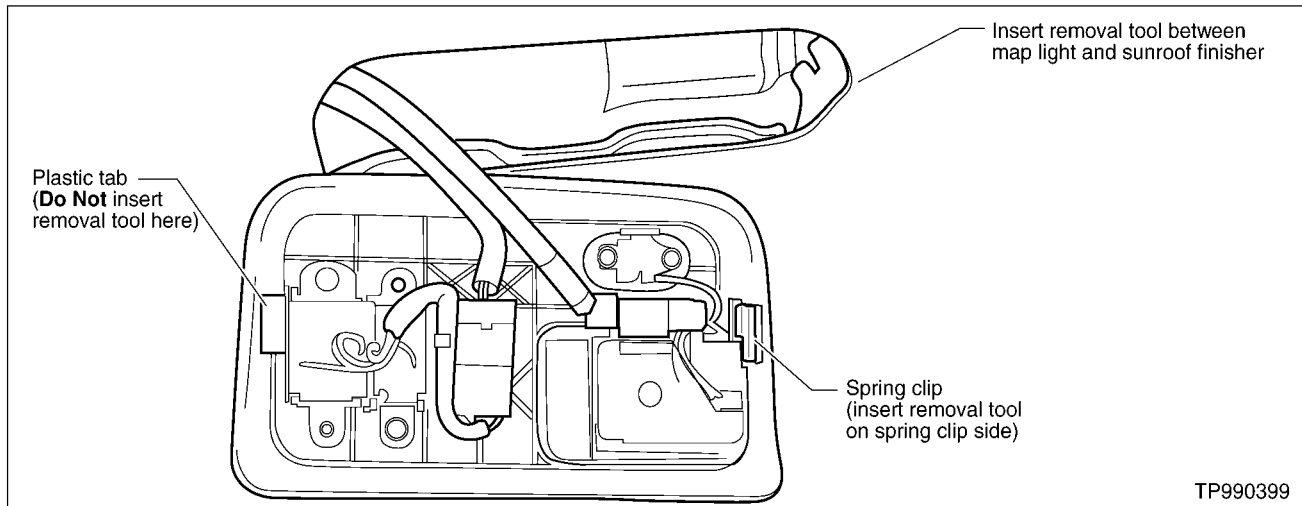

Figure 6
- A. Insert a removal tool wrapped in a clean cloth between the right-hand side of the map light and the sunroof finisher (see Figure 6).